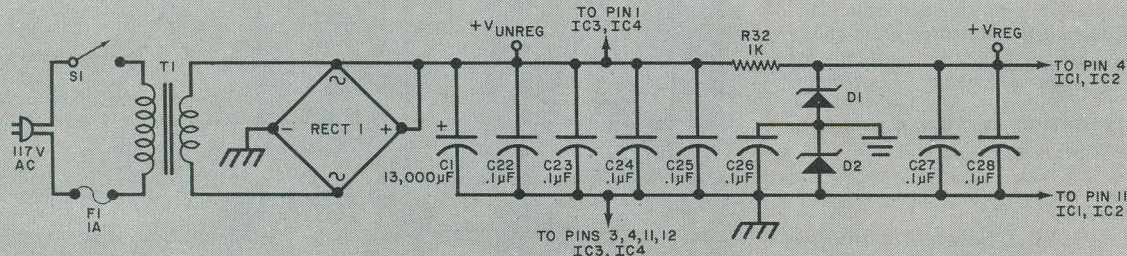

Fig. 2. Schematic diagram of a power supply for the filters and amplifiers. Capacitors supply filtering and zener diodes regulation for various voltages.
**Power Supply.** Power for the filters and power amplifiers can be provided by the supply shown schematically in Fig. 2. A simple bridge rectifier and filter capacitor provide 35 volts dc at no load. As the LM 379 is relatively insensitive to power-supply ripple, no additional filtering is required.